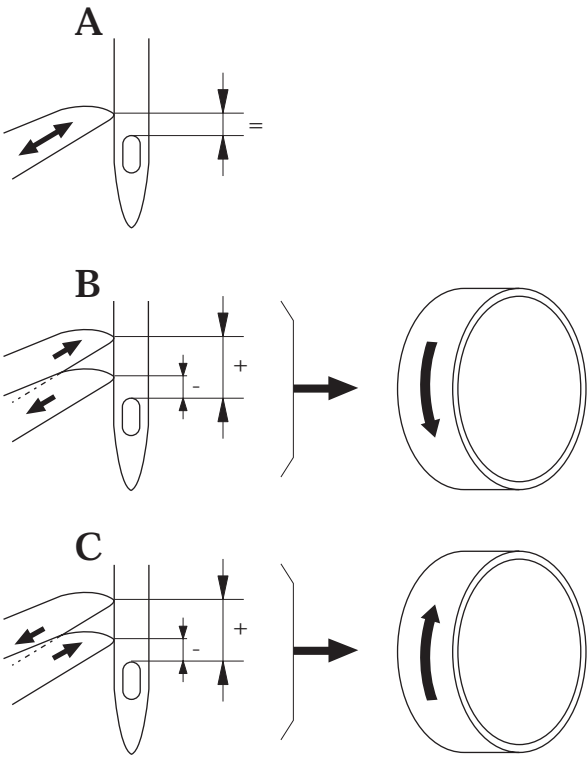

Fig.2
5. Bring needle bar to its lowest position and check whether lower looper starts its left to right motion simultaneously with up motion of needle bar. (Fig.2)